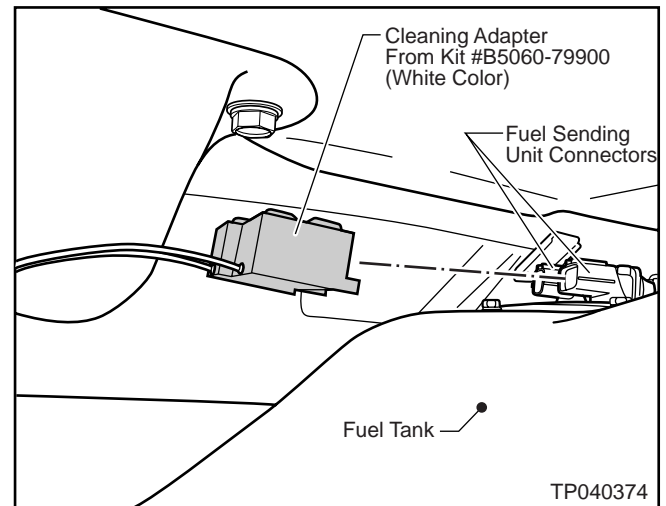

Figure 6
6. Install the Cleaning Adapter (white color adapter) onto the Fuel Sending Unit Connectors until it clicks (locks) in place. See Figure 6.